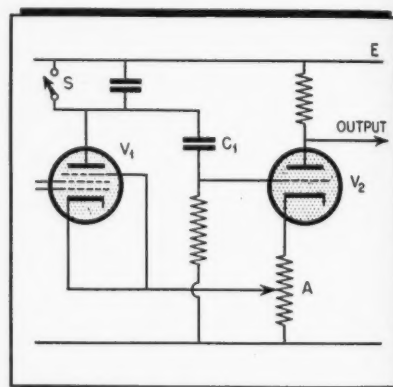

Figure 10
g. Bedford's circuit employs a charging pentode V_1 in Fig. 10. As the voltage falls on the plate of V_1 , the grid of V_2 and point A will also fall in